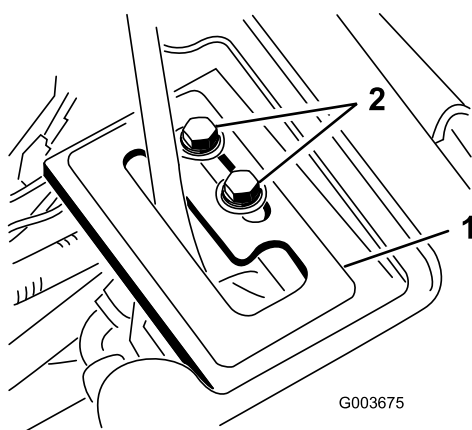

Figure 25
1. Insert the lever guide plate over the lift lever and loosely secure it to the frame with 2 flange-head screws and washers (Figure 25).
7. With the engine running and lift lever in the **Float** position, slide the lever guide plate until the lift cylinder can be extended and retracted by hand (Figure 25).
8. Tighten both lift lever guide plate mounting screws to secure the adjustment (Figure 25).